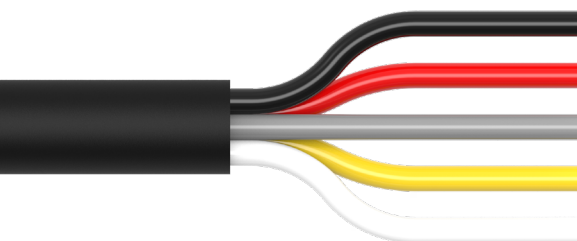

FIG. 4
- See Fig. 4 for individual wire functions. Refer to the perimeter strobe light instructions to program the **RED** and **GREY** wires to desired strobe patterns.
- Unplug the programming pigtail and leave the light bundles unplugged from the Main Harness (A). They will be connected to the Main Harness (A) once it's routed through the vehicle.